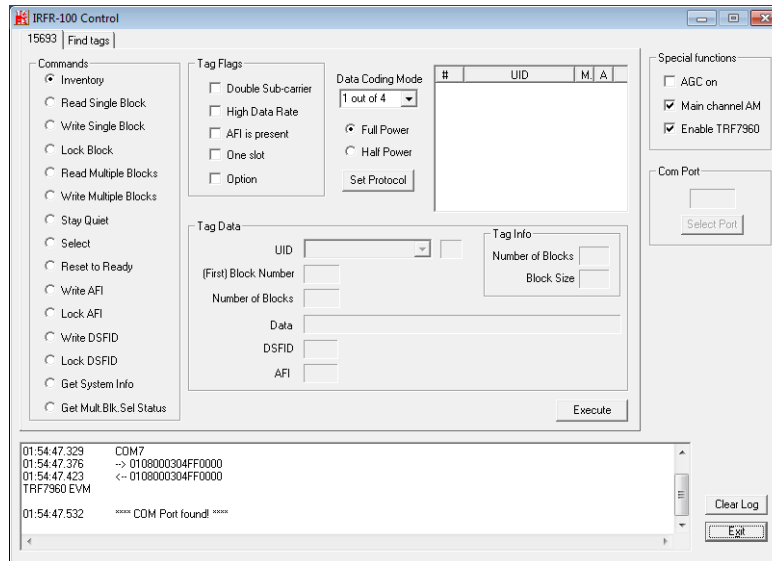

Figure 3-23: IRFR Screen
Step 4: The IRFR-100 window appears (Figure 3-23).